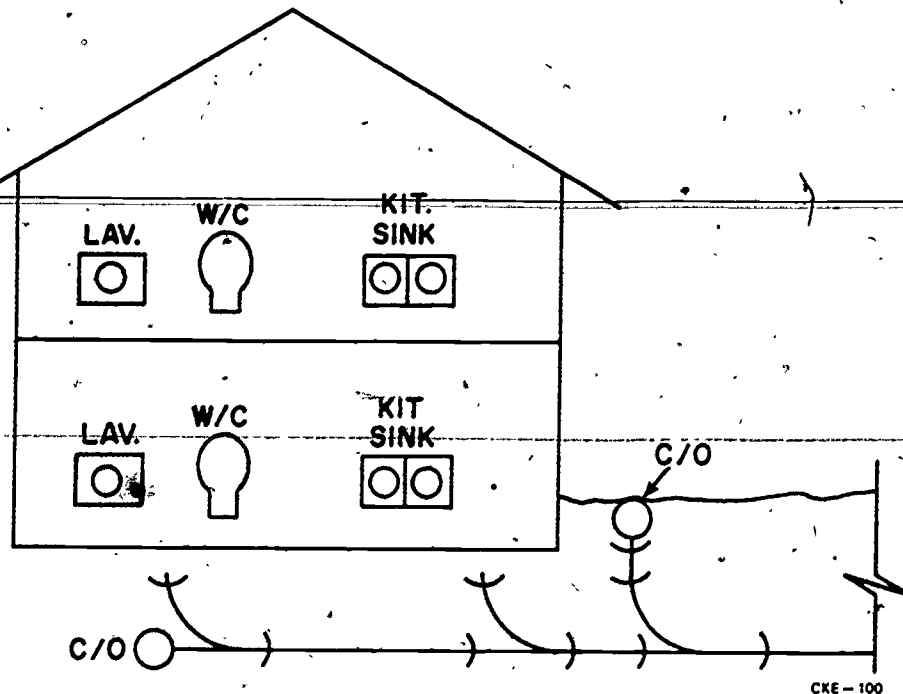

Figure 5. Plumbing Vent System
1. Using figure 5, make a sketch of a typical plumbing vent system.